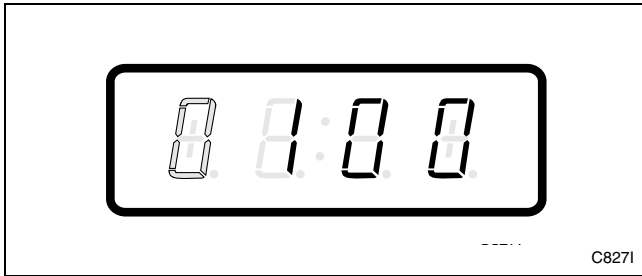

Figure 68
6. Press the START (enter) keypad to enter the fifth digit and display remaining four digits. The active digit will flash one second on and one second off. Refer to *Figure 68*.